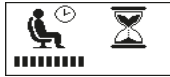

Fig.18
14. Once the CCA rating of the battery was input, press  key to start the testing process. Refer to the display Fig.18 below.